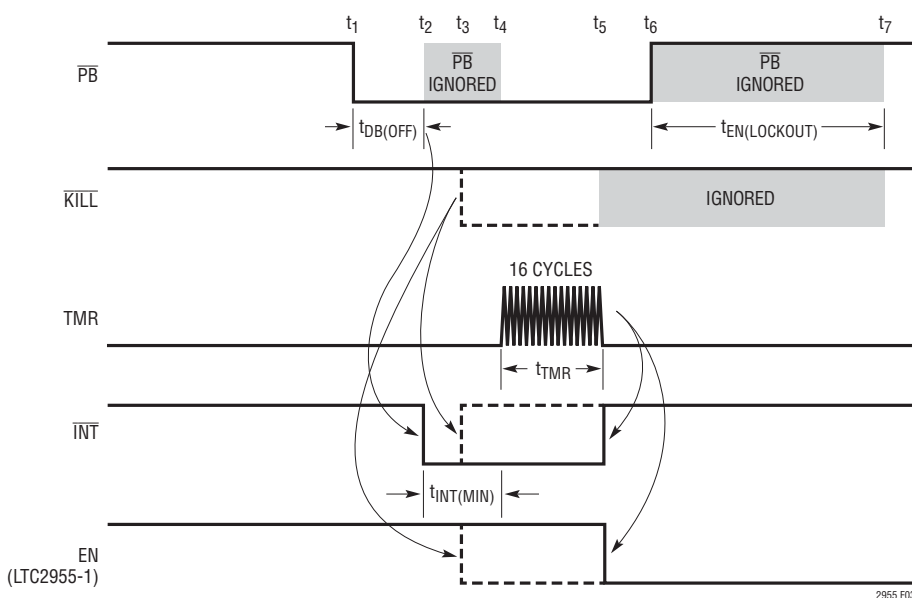
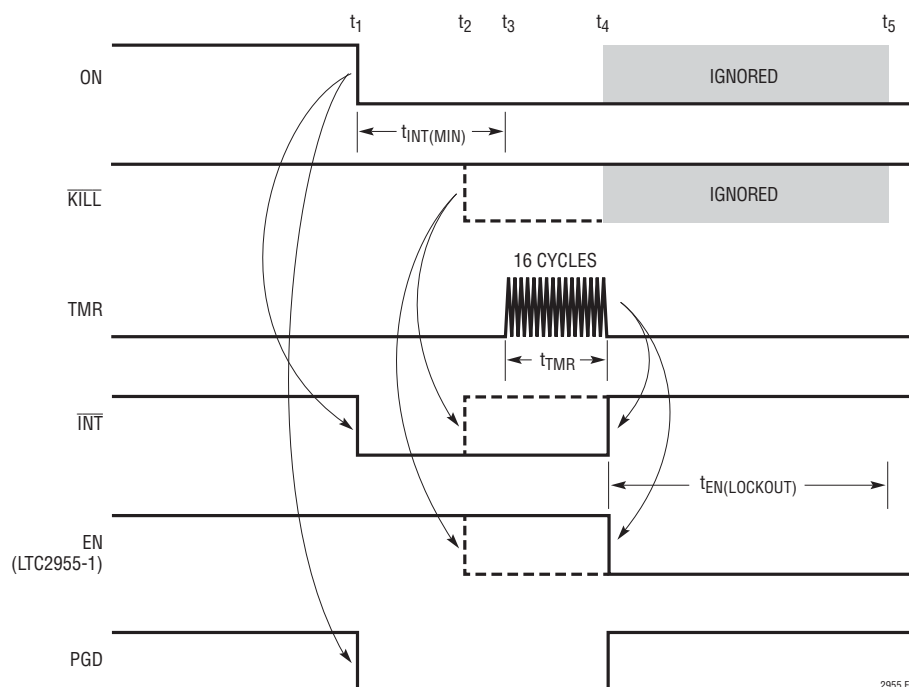

Figure 3. Pushbutton Turn-Off Timing
Figure 5. ON Pin Turn-Off Timing (DFN Only, $V_{SEL} > 1.2V$ and the Preceding Turn-On Sequence Was Initiated by the ON Pin Rising Edge)
Figure 3 shows the turn-off sequence of the LTC2955-1 initiated through the $\overline{\text{PB}}$ pin. A turn-off sequence refers to the LTC2955-1 releasing the EN output. This turns off the voltage regulator.
A high to low transition on $\overline{\text{PB}}$ (t_1) starts the turn-off sequence. In order to assert $\overline{\text{INT}}$ (interrupt output) low, $\overline{\text{PB}}$ must stay low continuously for 32ms ($t_{\text{DB}(\text{OFF})}$). At the end of the 32ms (t_2), the $\overline{\text{INT}}$ pin is asserted low and will stay low for at least 32ms ($t_{\text{INT}(\text{MIN})}$), even if the $\overline{\text{PB}}$ pin goes high during this period (t_2 to t_4). When the μP receives this interrupt signal, it should start to perform its power-down functions and assert $\overline{\text{KILL}}$ low (t_3) once it is done. The LTC2955-1 will then release $\overline{\text{INT}}$ and pull EN low, thus turning off the system power, as shown with dotted lines in Figure 3.
high). This can be done by holding the pushbutton down for a long period ($> t_{DB(OFF)} + t_{INT(MIN)} + t_{TMR}$) as shown with the solid lines in Figure 3. If the $\overline{PB}$ pin remains low at the end of the 32ms minimum $\overline{INT}$ pulse width ($t_{INT(MIN)}$), the external timer will start counting (t_4).
After the EN output goes low and the $\overline{PB}$ pin goes high, the LTC2955-1 starts the one second lockout time ($t_{EN(LOCKOUT)}$). During this lockout time (t_6 to t_7 in Figure 3)
Figure 5 shows the turn-off sequence of the LTC2955-1 initiated by the ON pin. The timing sequence is slightly different from that by the pushbutton as there is no debounce time ($t_{DB(OFF)}$) before the $\overline{INT}$ pin pulls low. The ON pin falling edge can start the turn-off sequence only if the following two conditions are met: (1) The preceding turn-on sequence was initiated by the ON pin rising edge, and (2) The SEL pin must be tied high ($>0.8V$). For TS8 package, the ON pin falling edge is ignored.
In Figure 5, a high to low transition at ON (t_1) starts the turn-off sequence. The interrupt output ($\overline{INT}$) is asserted immediately when the ON pin goes low. Unlike the $\overline{PB}$ pin turn-off sequence, there is no 32ms debounce time ($t_{DB(OFF)}$) for the ON pin going low. This allows the system to initiate a shutdown as soon as the monitored supply is removed and allows the μP the maximum amount of time
to perform power-down functions. The $\overline{INT}$ pin will stay low for at least 32ms ($t_{INT(MIN)}$). When the μP receives this interrupt signal, it should start to perform its power-down functions and assert the $\overline{KILL}$ input low (t_2) once it is done. The LTC2955-1 will then release the EN and $\overline{INT}$ outputs, thus turning off the system power, as shown with dotted lines in Figure 5.
If the μP fails to respond ($\overline{KILL}$ pin remains high, as shown with solid line in Figure 5) and the ON pin remains low 32ms after $\overline{INT}$ goes low, the external timer will start counting for 16 cycles (t_{TMR} , t_3 to t_4). If the ON pin remains low at the end of the 16 cycles (t_4), the LTC2955-1 will force the EN pin low and the $\overline{INT}$ pin high. See Applications Information for adjusting t_{TMR} .
The LTC2955 allows the user to force the system power to turn off if the μP fails to respond during fault conditions. As shown by the solid lines in Figure 3 and Figure 5, when the μP fails to bring the $\overline{\text{KILL}}$ pin low after the interrupt signal is asserted, the user can force a turn-off by holding down the pushbutton. The length of time that $\overline{\text{PB}}$ must be held low is given by a fixed 64ms delay ($t_{\text{DB(OFF)}} + t_{\text{INT(MIN)}}$) plus an adjustable power-down timer delay (t_{TMR}). The adjustable delay is set by placing an optional external capacitor on the TMR pin. Use the following equation to calculate the capacitance for the desired delay. C_{TMR} is the external capacitor at the TMR pin: